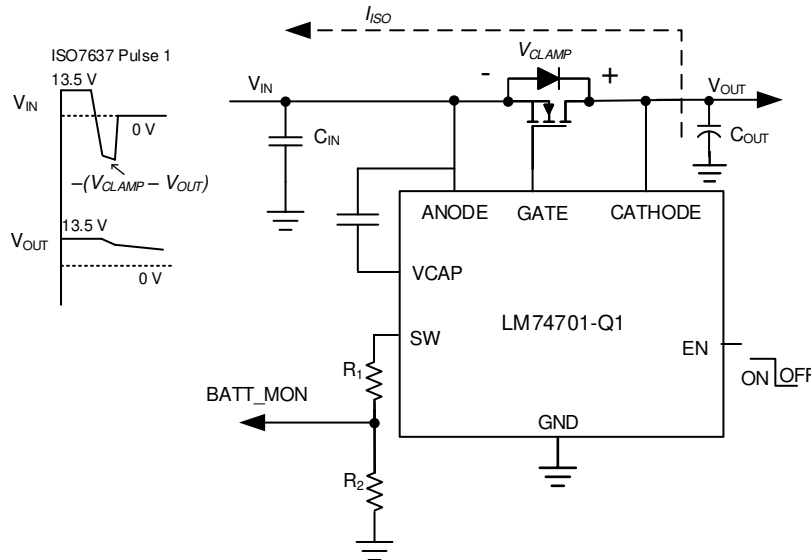

Figure 8-4. LM74701-Q1 Operation During VDS Clamp Mode
2. After the voltage across the drain and source of the MOSFET reaches V_{CLAMP} level (34-V minimum), GATE is turned ON back in the saturation region, operating external MOSFET as an active clamp and dissipates the ISO7637 pulse 1 energy. The typical circuit operation of LM74701-Q1 during ISO7637 pulse 1 is shown in Figure 8-4.